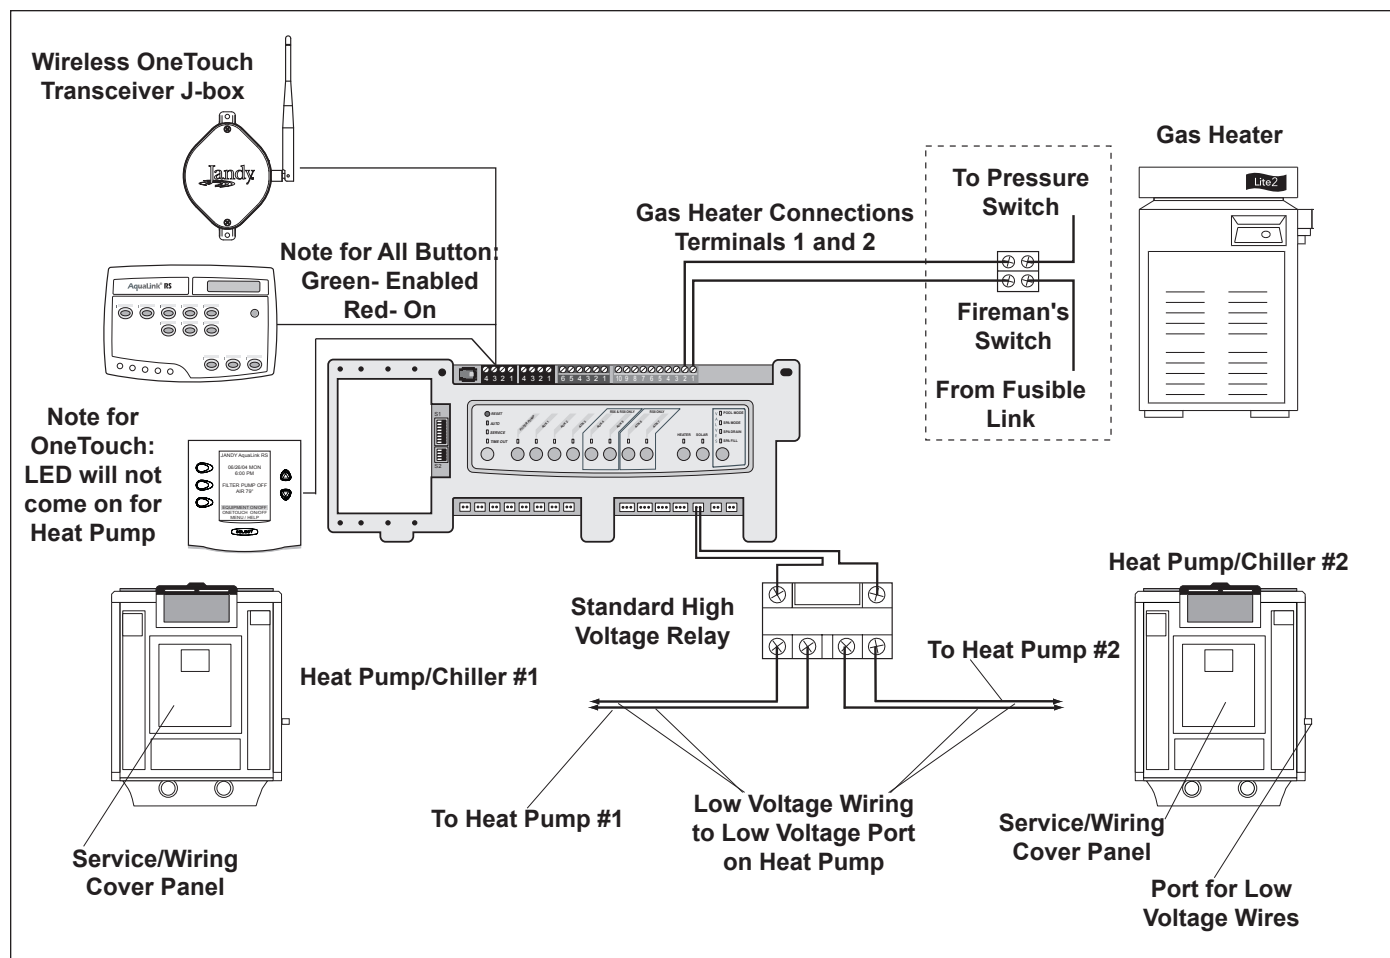

Figure 19. Heater and Heat Pump/Chiller Wiring
2. To run the wires from the heat pump control panel, remove the five (5) screws that attach the service/wiring cover panel to the heat pump (see Figure 19).